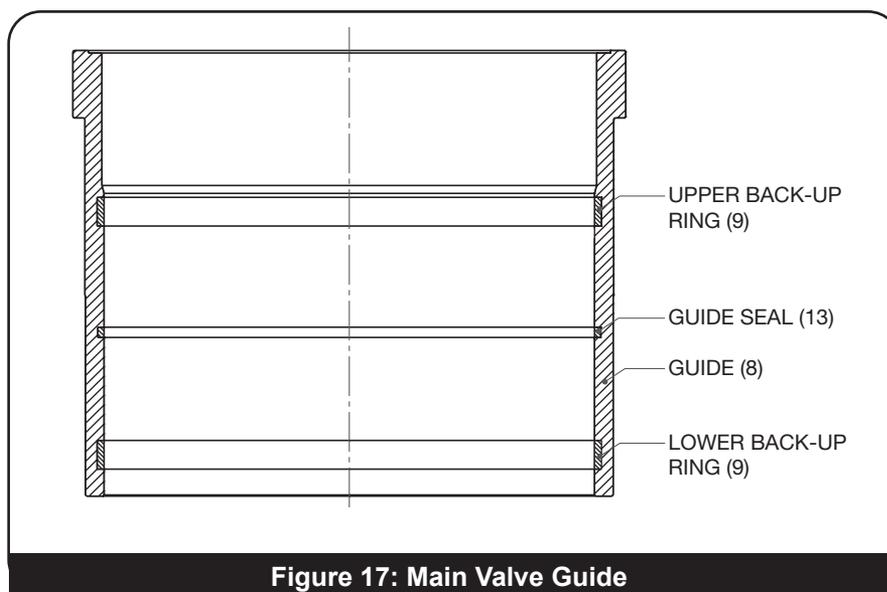

Figure 17: Main Valve Guide
1. Install both the Lower Backing Ring (9), and “U” Ring Guide Seal (13) in the Guide (8) as indicated in Figure 17.